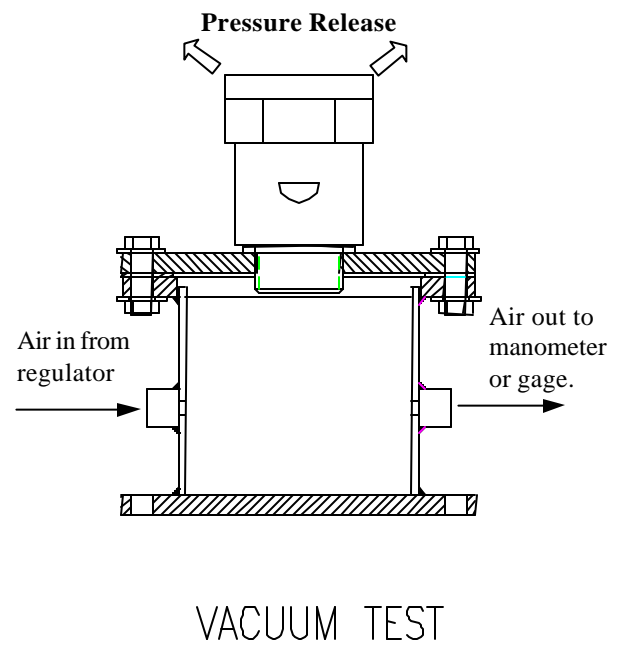

Figure 2
1.2.1. Screw the Normal Vent into the lid of the test tank as shown in figure 2.
- 2.2.1. Screw the Normal Vent into the lid of the test tank as shown in figure 2.